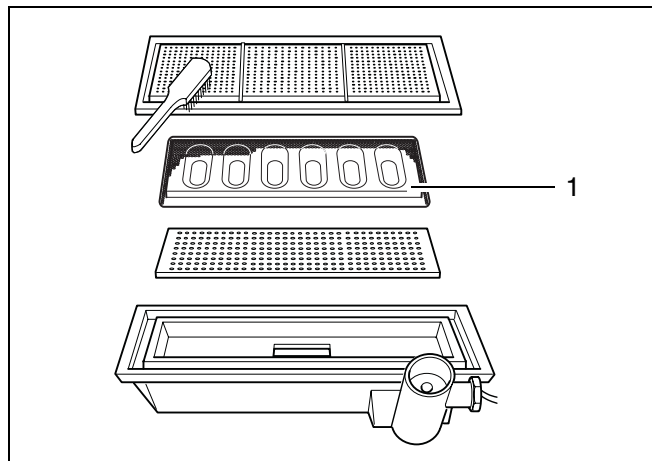

fig. 47 Cleaning the burner
- Clean the burner with a **soft** brush and compressed air (fig. 47).
The perforated plate (fig. 47, item 1) is only provided on type 800 – 24 and 800 – 24T25 models.